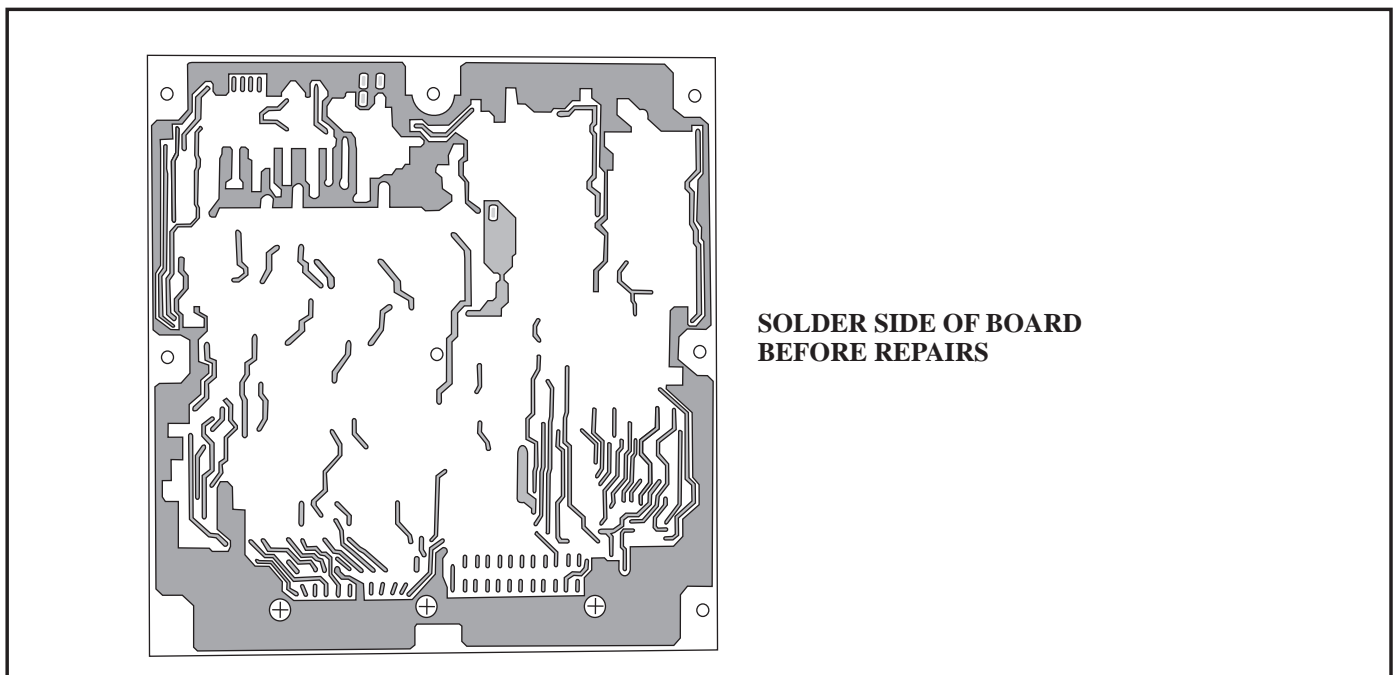

Figure 2
- Step 6: Make a solder bridge between the ground plane and the next trace in (which goes to the top of the board, then to R51) (see figures 2 and 3)
- Step 7: Make a cut in the trace you just bridges to just above the bridge. (see figures 2 and 3)
- Step 8: Make a cut in the trace that starts at D23 (see figures 2 and 3)